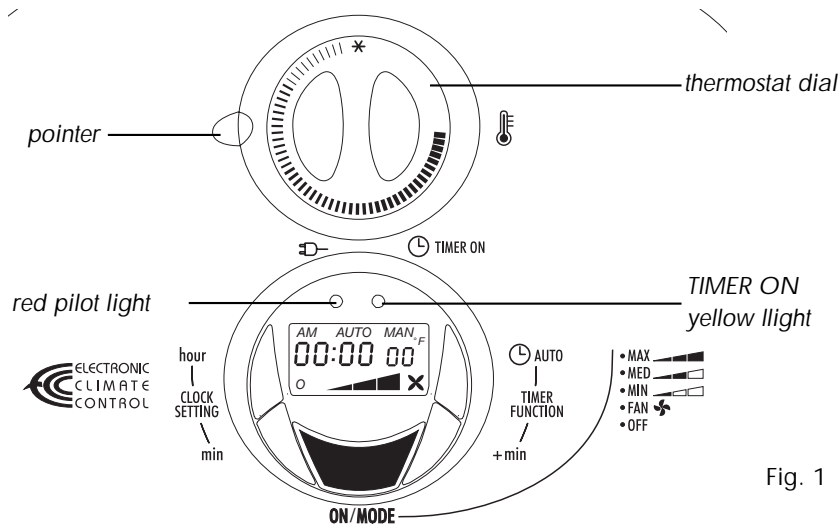

Fig. 1
When you plug in the appliance, the red pilot light will illuminate (Fig. 1).
- Press the button **"hour"** until the display shows the hours for the correct time and AM or PM, then release the button (fig.1).
- Press the button **"min"** until the display shows the minutes for the correct time, then release the button (fig. 1).
To operate the heater without timer press the **"ON MODE"** button. (Fig. 1). By pressing the **"ON MODE"** button one or more times, the appliance will select the operating heating power, as follows:
If Maximum power has been selected, adjust the thermostat dial (Fig. 1) to the desired comfort temperature, from 42° and 95° F (5°C to 35°C). By turning the thermostat dial the display will show the selected temperature.
Set the thermostat dial to the "★" position (Fig. 1). The display will show 42°F (see figure).